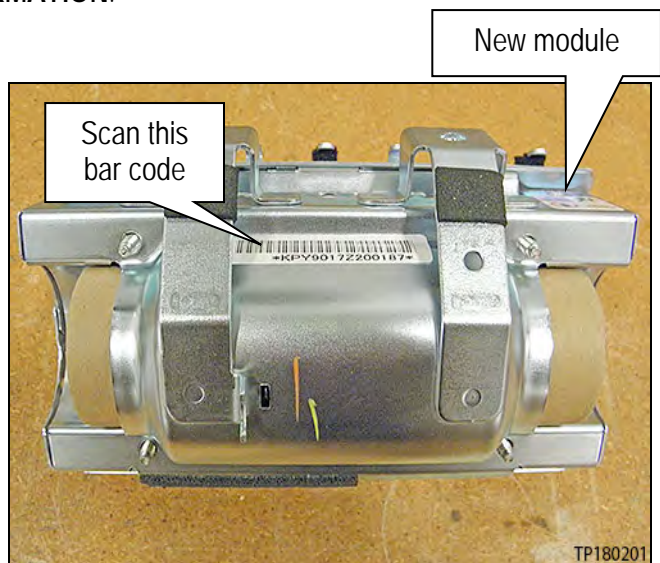

Figure 9
11. Use the Quick Scan Tool to scan the bar code (serial number) on the new module (see Figures 9 and 10).